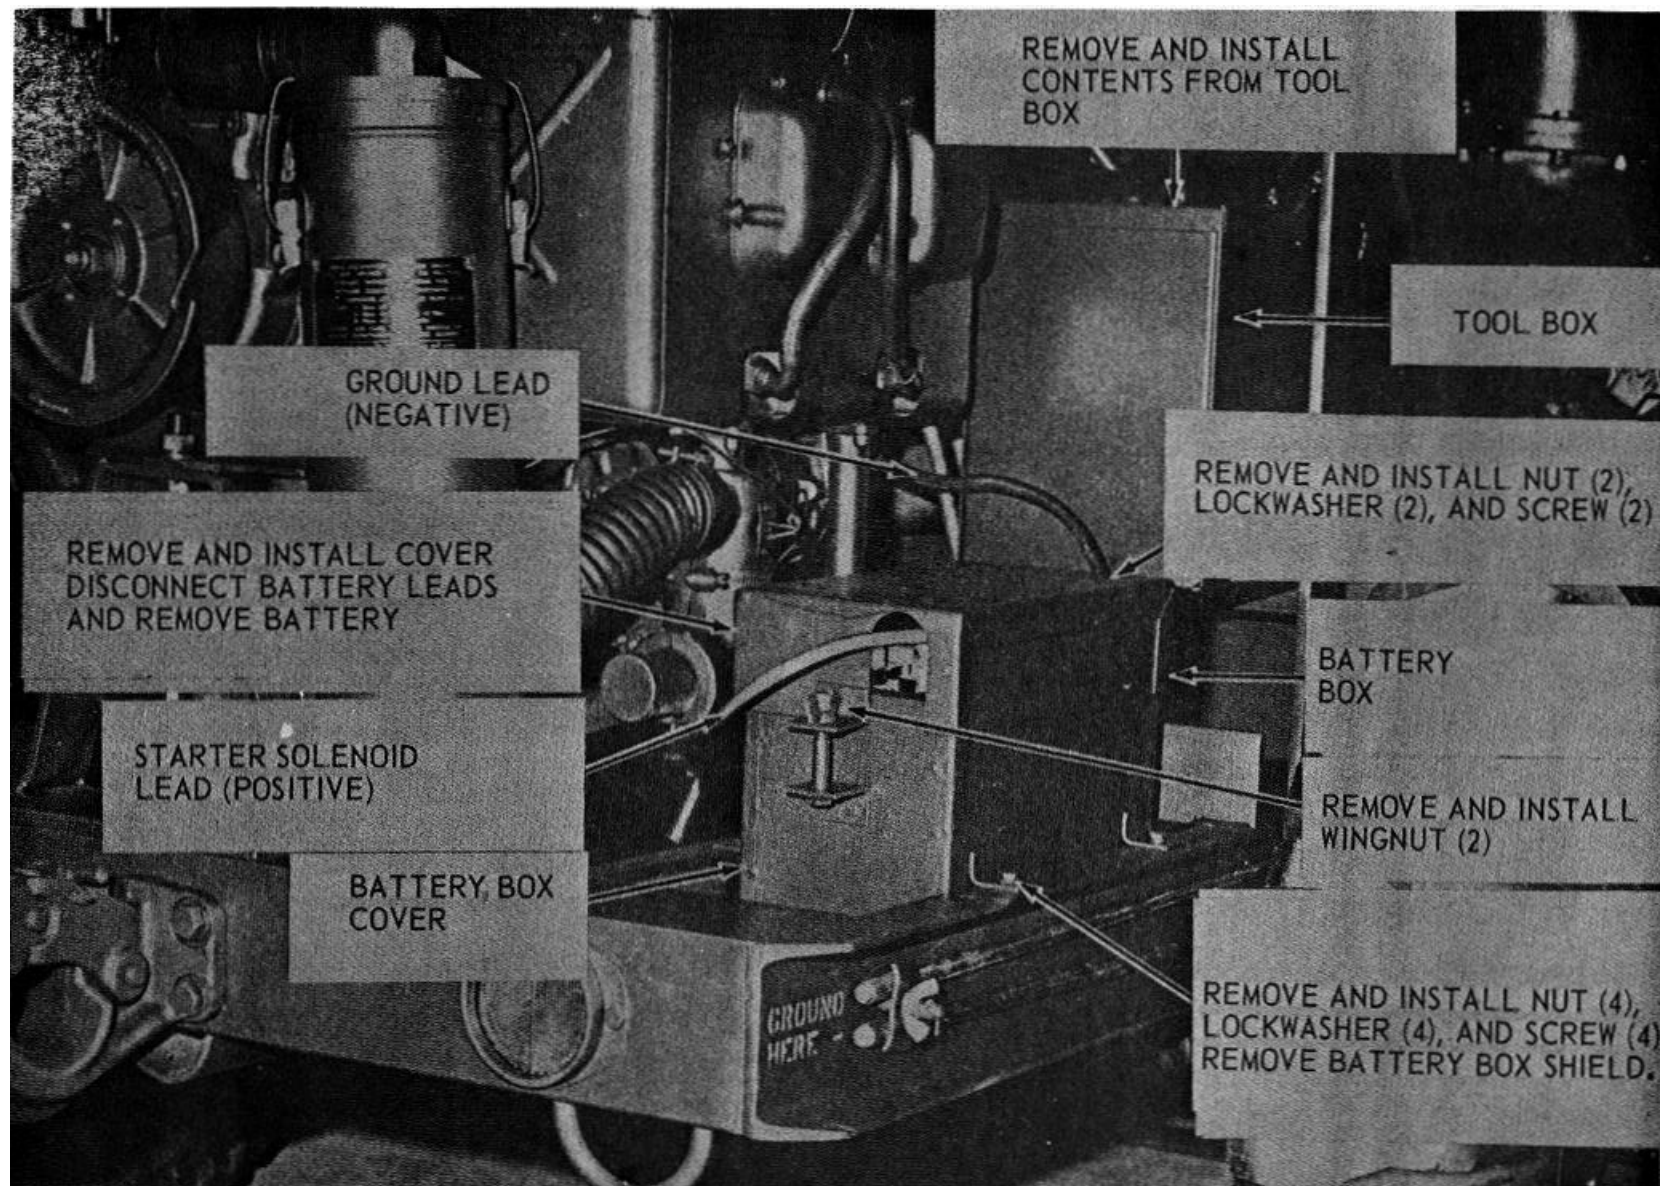

Figure 4-13. Toolbox and battery box, removal and installation.
a. *Removal.* Refer to figure 4-13 and remove toolbox and battery box.
(1) Refer to figure 4-13 and install toolbox and battery box.
(2) Return contents to toolbox, close and secure cover.